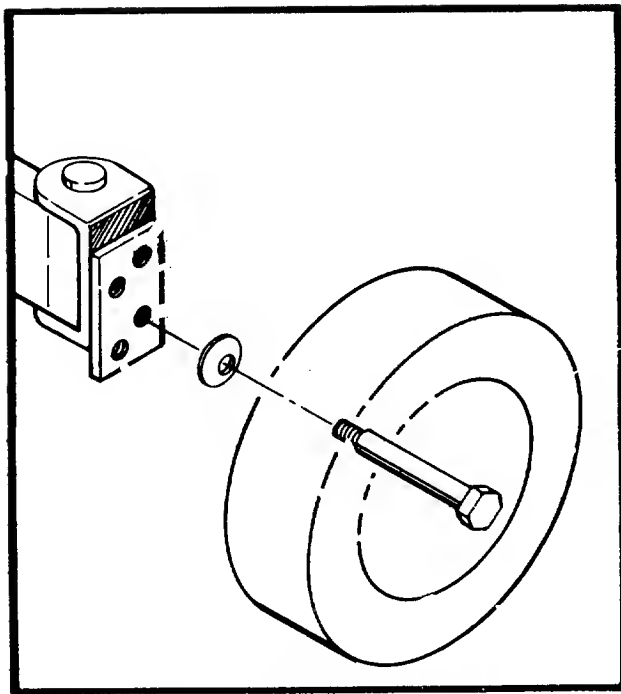

FIGURE 10. FRONT WHEEL ADJUSTMENT
- H. The height adjustment for the cutting blade is made, by removing the front axle bolts and moving the front wheels to one of the four cutting positions. See figure 10.